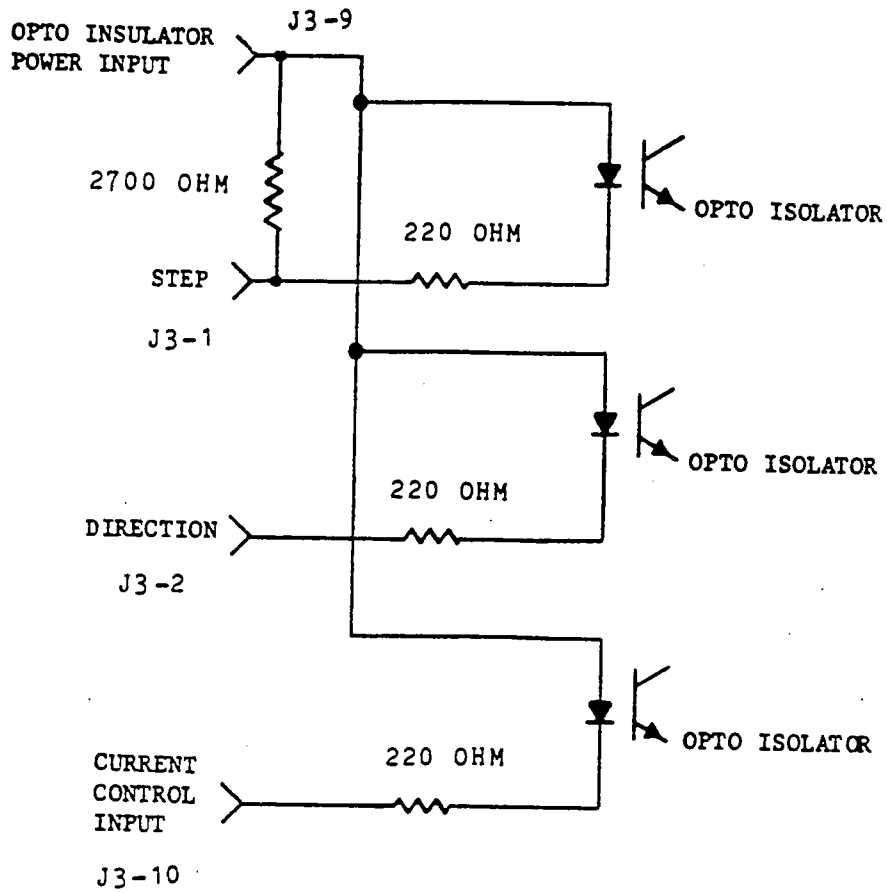
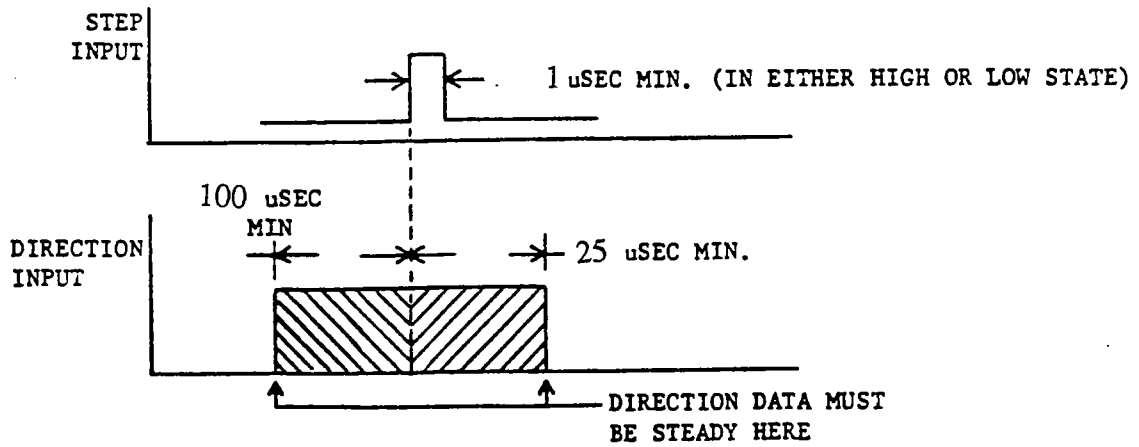

FIGURE 4
FIGURE 5
1. STEP Signal Input (J3-1). The input pulse train that causes the motor to step is applied at this pin. The step will occur on the low-to-high transition of the STEP pulse; the STEP pulse must have a minimum duration of 1.0 usec. Figure 4 illustrates the STEP input circuit and figure 5 step input timing.
2. DIRECTION Signal Input (J3-2). For a given connection of motor phase windings, this input determines the direction of rotation of the stepping motor. If standard Sigma wiring is followed, and the desired motor direction is incorrect, reversing the connections of one of the stepping motor phase windings will cause a reversal of the effect of the DIRECTION input. Figure 4 illustrates the DIRECTION input circuit.
For a given set of motor phase winding connections, the DIRECTION input to the translator determines the direction of rotation of the stepping motor. Reversing the connections to one phase winding reverses the direction of shaft rotation and therefore reverses the effect of the DIRECTION input. The DIRECTION input must be present a minimum of 100 usec before and after the low-to-high transition of the STEP pulse. Figure 5 shows the required timing relationship between the STEP and DIRECTION inputs.